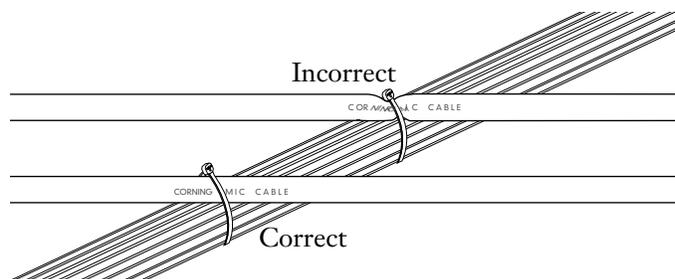

Figure 8
- Do not deform the cable sheath, specifically when using cable fasteners or ties to secure the cable to a support or hardware (Figure 8).